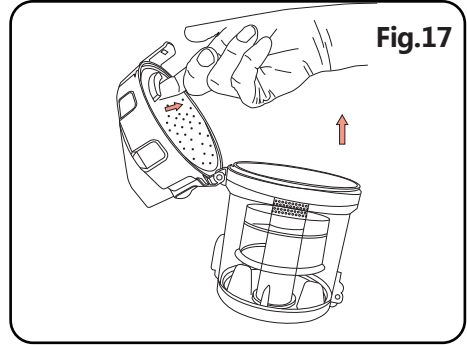

Fig.17
(4) As in fig.17, get the HEPA cover